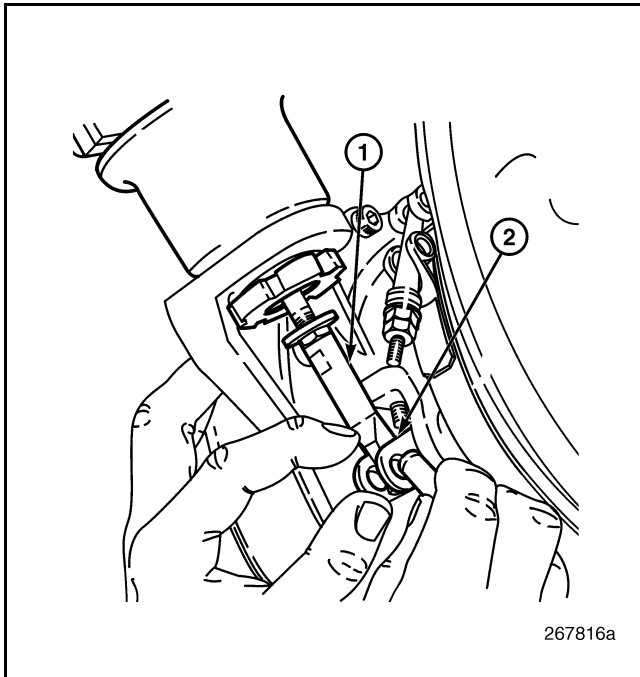

Figure 521 — Vane Operating Lever Connection
3. Remove the C-clip and remove the pin connecting the actuator rod to the vane operating lever clevis (Figure 521).